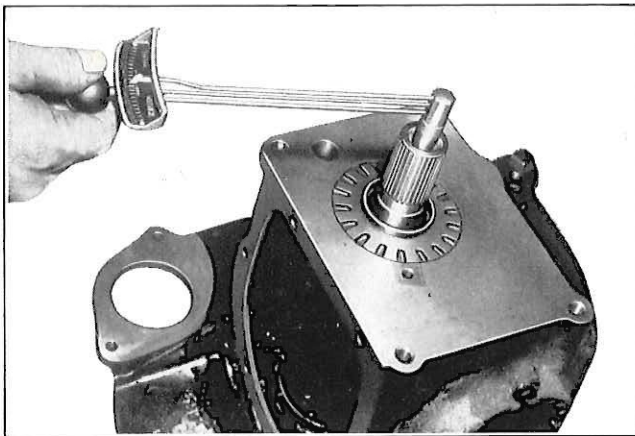

Fig. 8—Measuring Pinion Turning Torque Using J-8362 Adapter and Torque Wrench J-5853
5. Measure the turning torque at the drive pinion using J-8362 adapter and inch-pound torque wrench J-5853 (fig. 8).